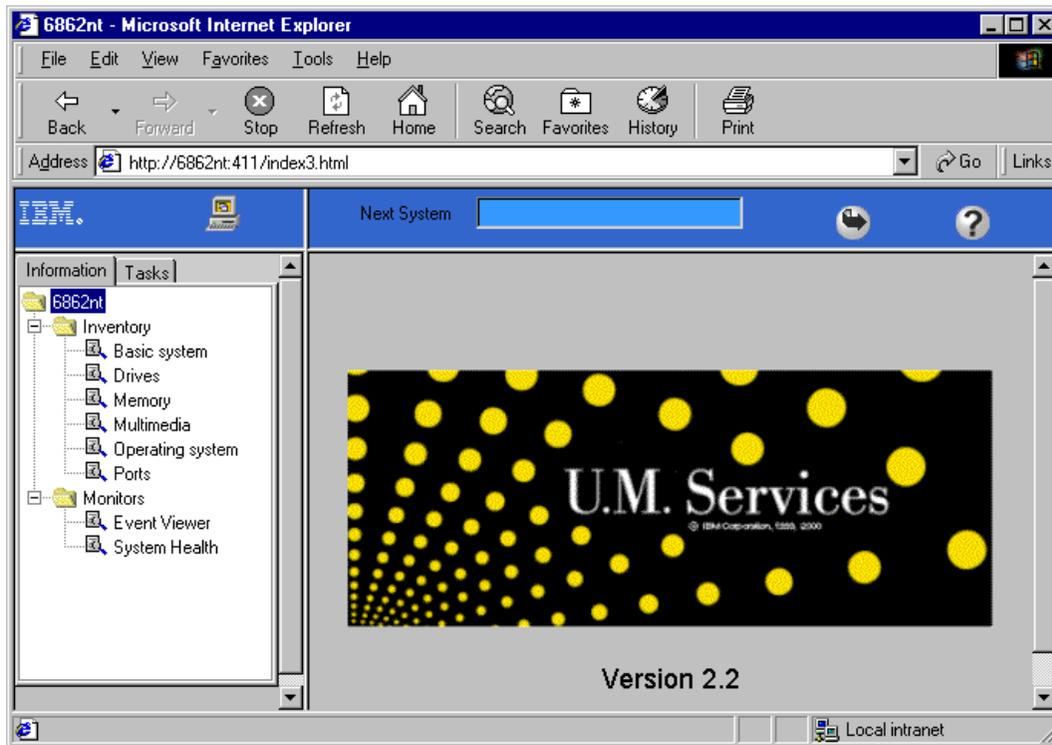

Figure 110. UM Services Browser main window
- These changes will not be reflected in the **Inventory** option (Figure 110 on page 144) until the next inventory collection. Similarly, any changes made to the Asset ID area including those made through RFID and LCCM's AIAWRITE interfaces will not be reflected until the next inventory collection.